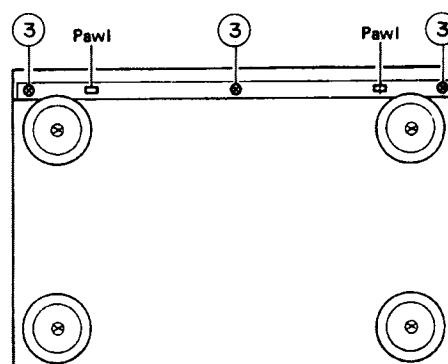

Fig. 2 - 2
1. Remove two screws ④ or two screws ⑤ from the corners of the mechanism. (Fig. 2 - 5)